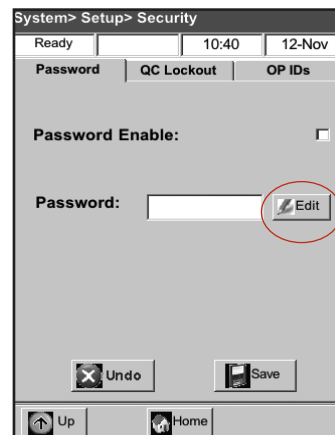

Figure H-20: System > Setup > Security screen
4. On the Password tab, tap **Edit** (Figure H-20) and then use the alphanumeric keypad to enter your new setup password. You can enter any number between 0 and 9999.